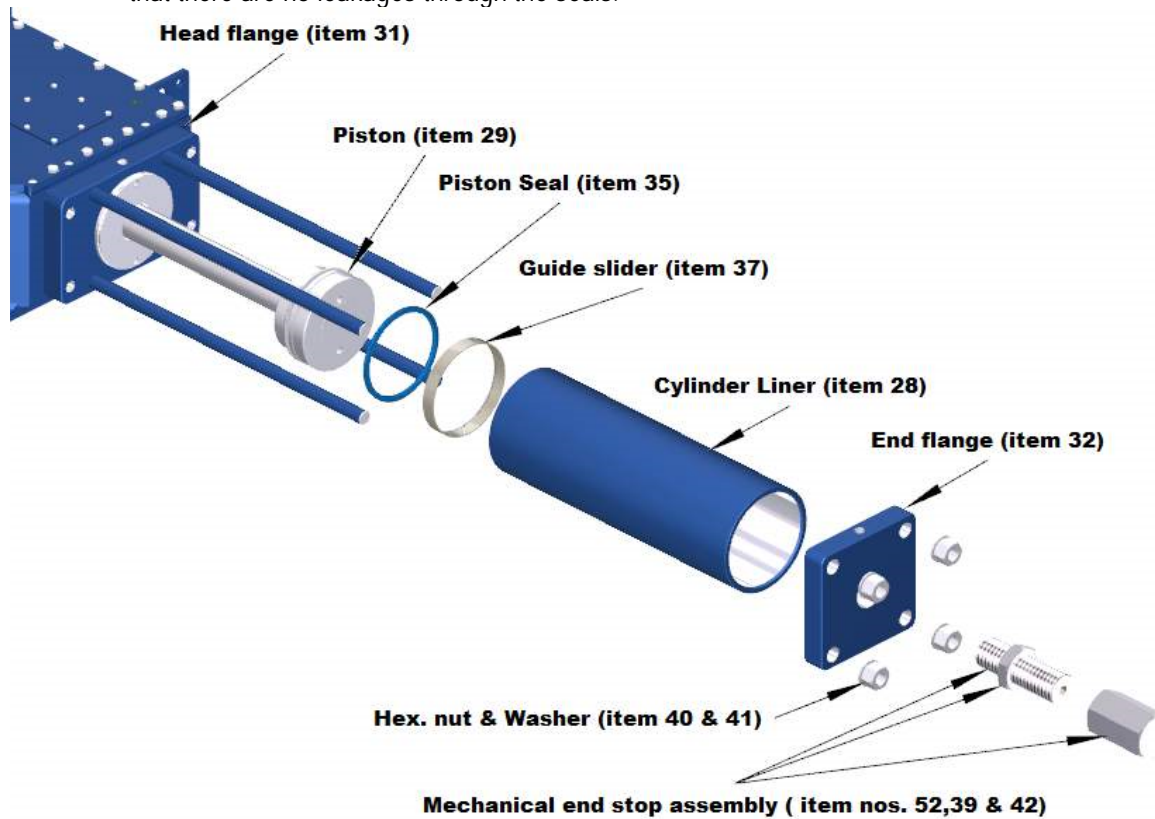

Figure 1
#### a) Replacement of Piston seal: ( See Figure 1 )
b) Replacement Piston rod seal in head flange: (See Figure 1 & 2)